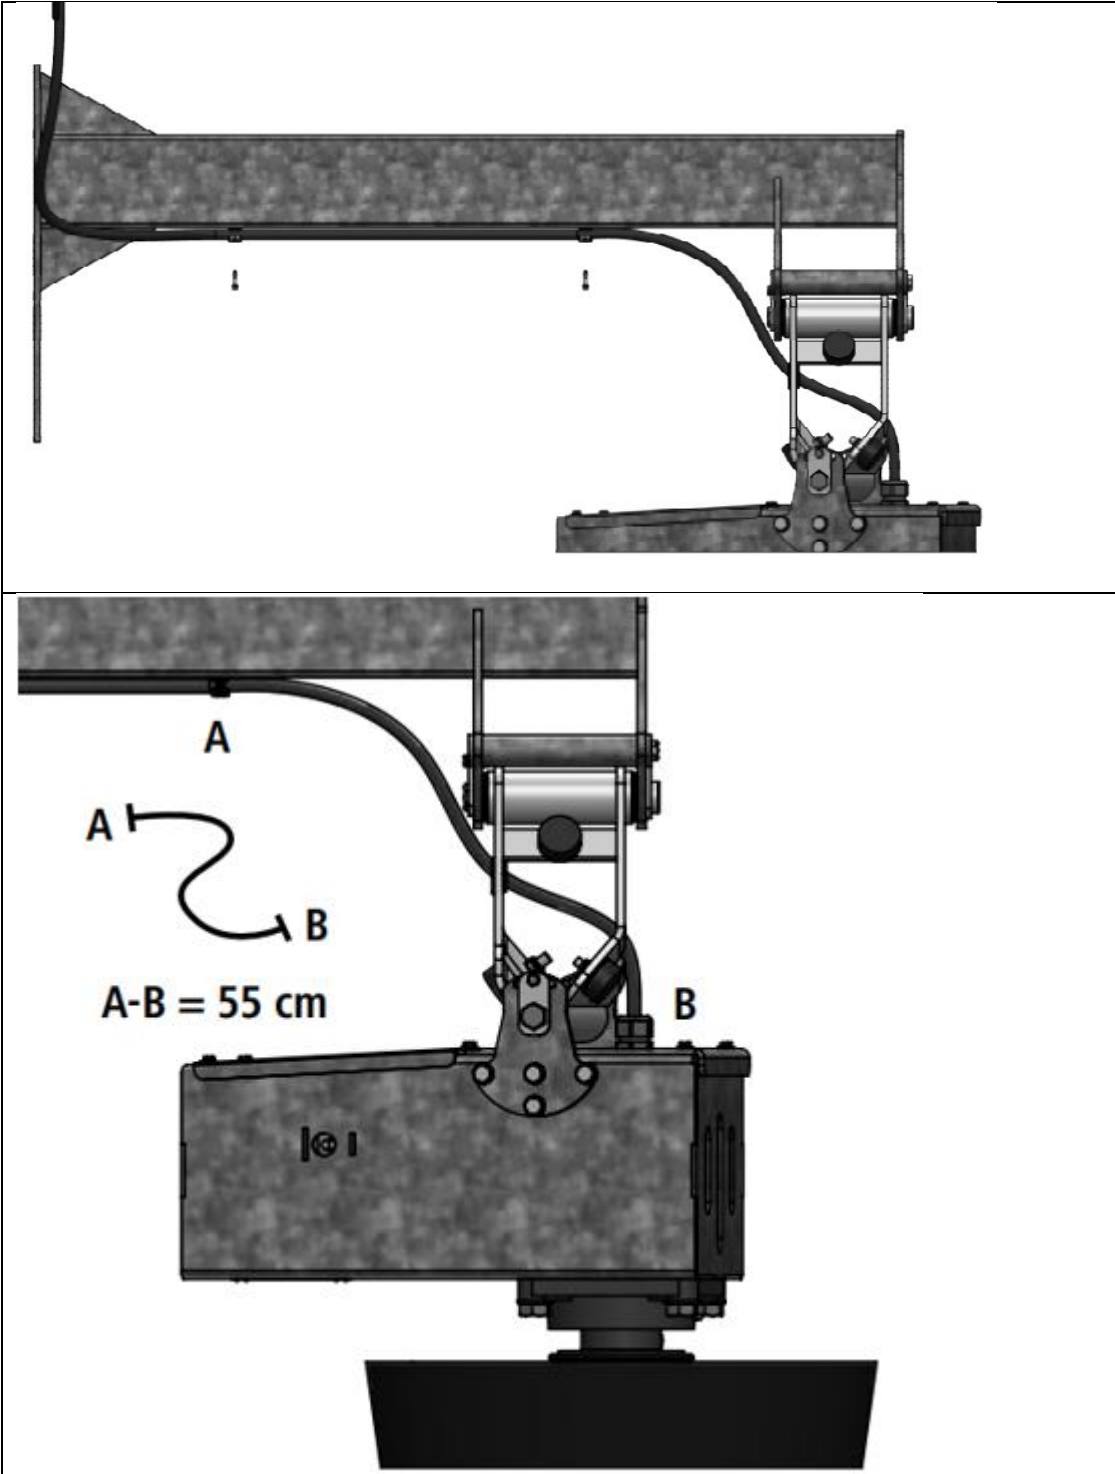

Figure 5 : Fastening the cable with cable clamps + Cable length
The length of the cable between the first clamp (point A) and the drive unit (point B) must be 55 cm (Fig. 5).
10. Secure the motor cable to the suspension arm with clamps and self-tapping screws (Fig. 5).